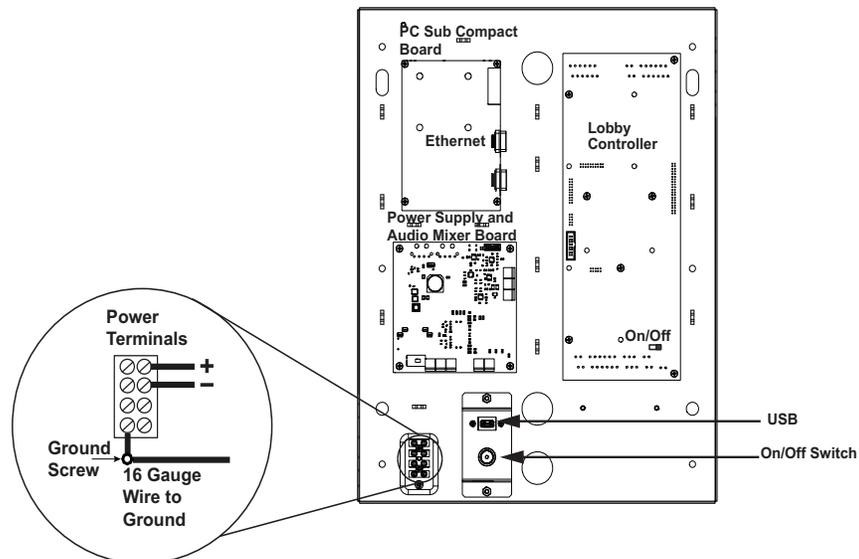

Figure 45. Ground and power terminals
1. The ground terminal is shown in Figure 45.
The power supply terminal block is shown in Figures 45 and 48. It receives 24 VDC from the external TX3-PS24-5A power supply.